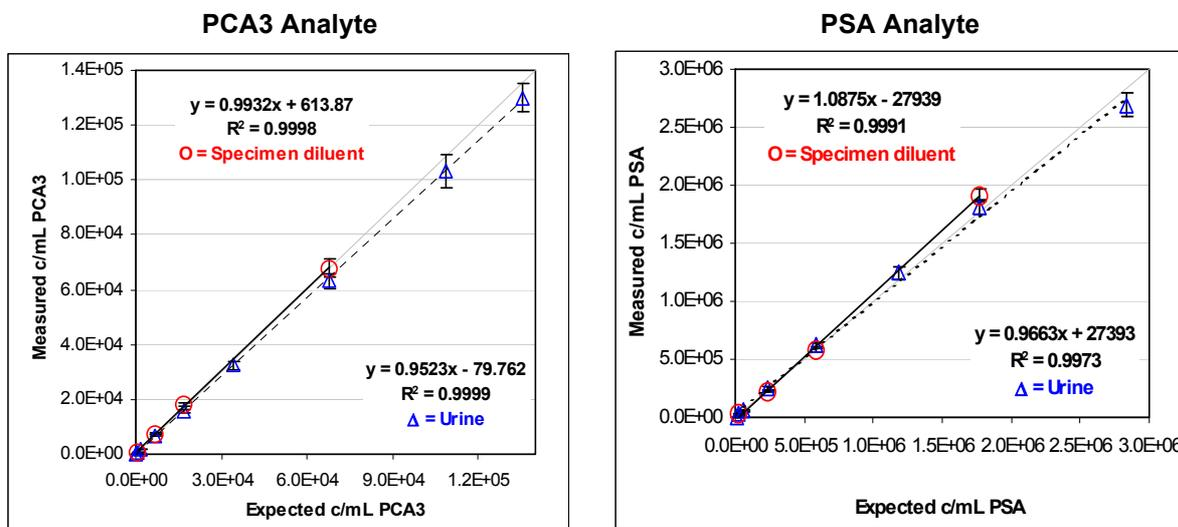

Figure 4. Progensa PCA3 Assay Linearity for PCA3 and PSA Analytes
The linear range of the Progensa PCA3 Assay was determined according to CLSI EP6-A (2003) (8) based on linear regression analysis (least squares). Two sets of dilution series were prepared from specimens containing high concentrations of PCA3 and PSA RNA. One set was diluted into processed female urine and one set was diluted into specimen diluent. Dilutions spanned the entire assay range between the lowest and highest positive calibrators for each analyte. For both PCA3 and PSA analytes, assay-measured results showed a direct proportional relationship between the dilutions tested and the analyte c/mL reported. There was no significant diluent matrix effect. See Figure 4.